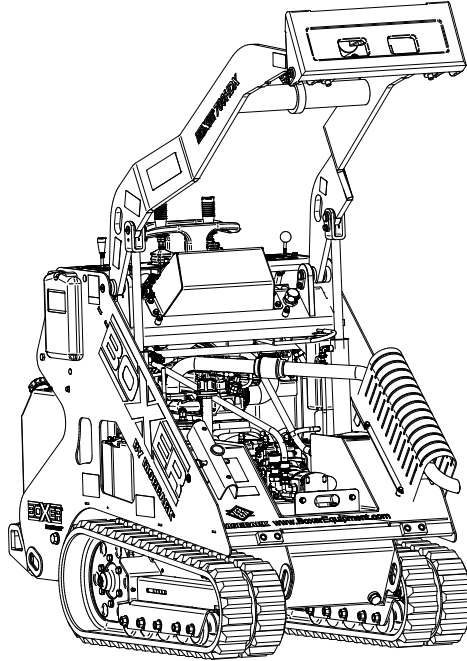

Figure 4-19 Fuel Feed Pump Lever
- e. Loosen, but DO NOT remove, the air bleed bolt (Item 2, **Figure 4-19**).
- f. Raise and lower the primer pump handle (Item 1, **Figure 4-19**) until only diesel fuel without any air bubbles comes out of the air bleed.